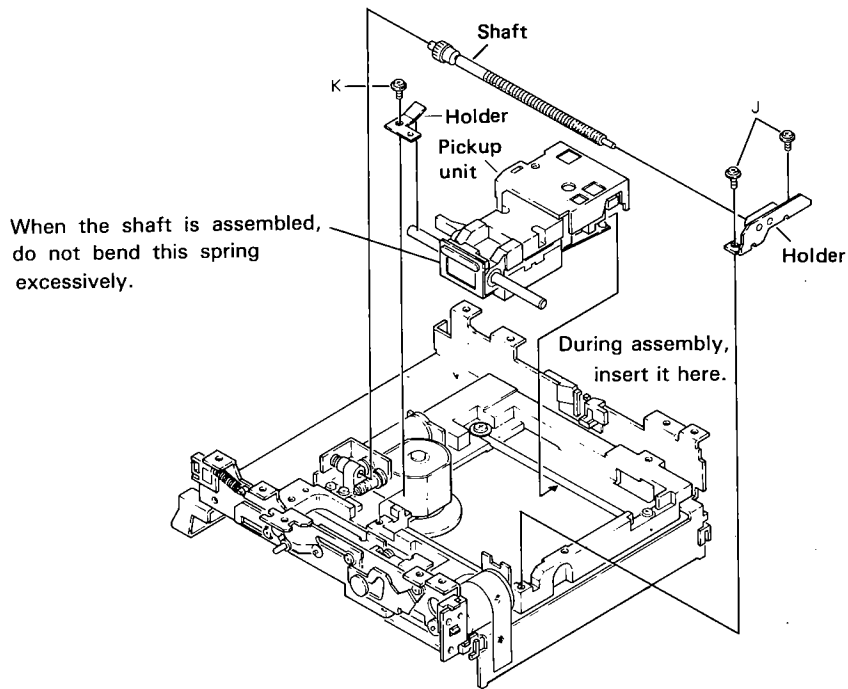

Fig. 25
1. Lower the pickup unit toward the back. (It can be shifted manually if shaft deviation is performed as shown in Fig. 25.)
• **Pickup Unit Removal (Fig. 25)**